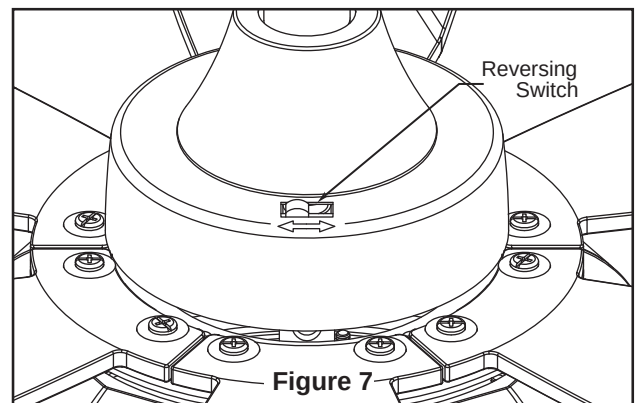

Figure 7
- ☐ **7. If airflow is desired in the opposite direction, turn the fan off and wait for the blades to stop turning. Then slide the reverse switch to the opposite position and turn fan on again. (Figure 7)**